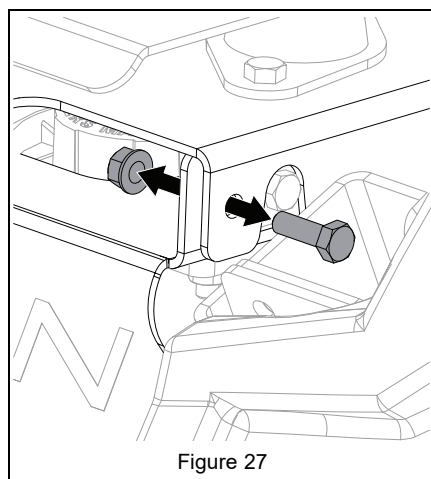

Figure 27
4. Remove and retain hardware securing seat plate to seat mount. See Figure 27.